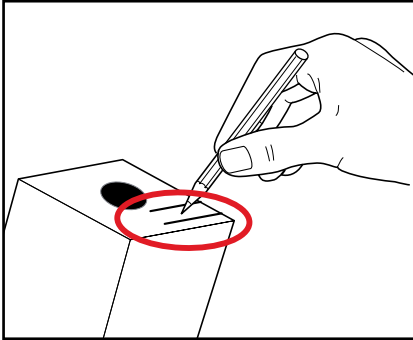

Fig. 4
6. Follow the instructions on the product pack. Write at least the expiry date on the product pack. (Fig. 4)